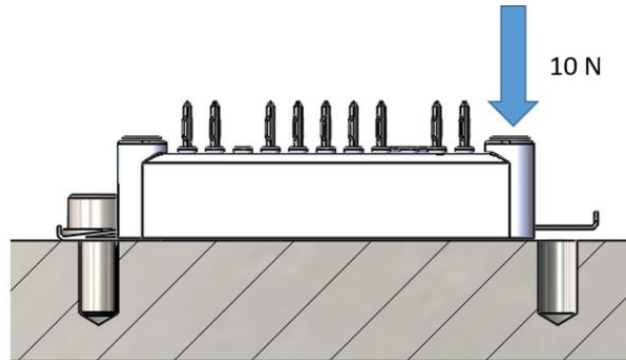

Figure 22. Mounting Method 2
**Method 2:** Secure the module in place relative to the heatsink with a force of approximately 10 N and then tighten the mounting screws (Figure 22).